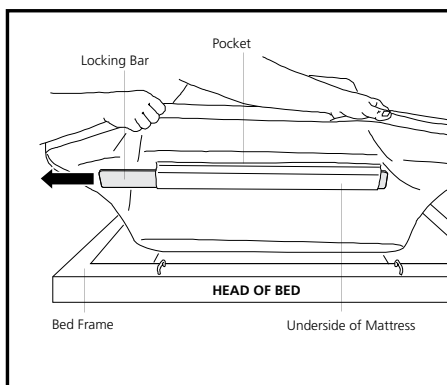

Figure 1
2. Slide locking bar located in pocket on underside of headend of mattress to one side, as shown at right (Figure 1).